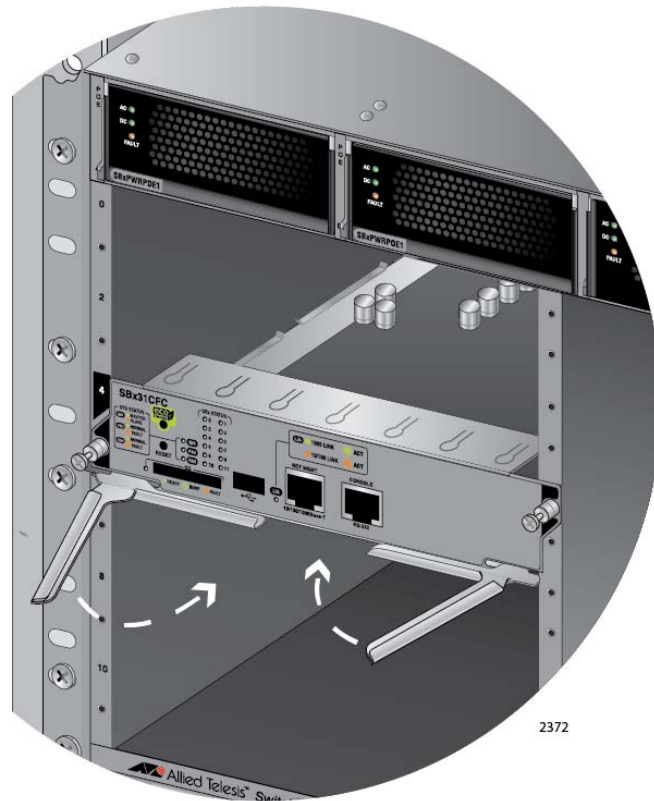

Figure 75. Closing the Locking Levers on the AT-SBx31CFC Central Fabric Controller Card
7. Secure the control card to the chassis by closing the two locking levers on the front panel of the card, as shown in Figure 75 on page 118.